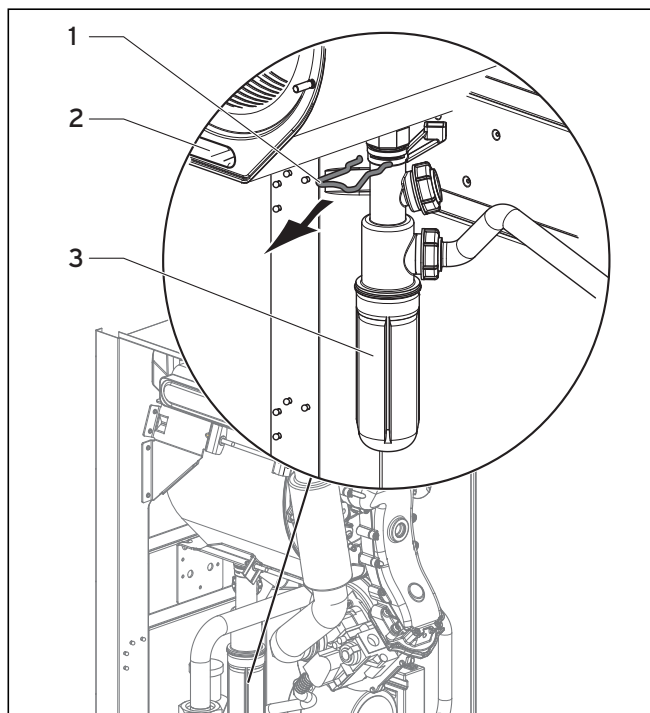

Fig. 7.5 Cleaning the condensate paths
- Screw off the bottom (3) of the condensate siphon (see fig. 7.5).